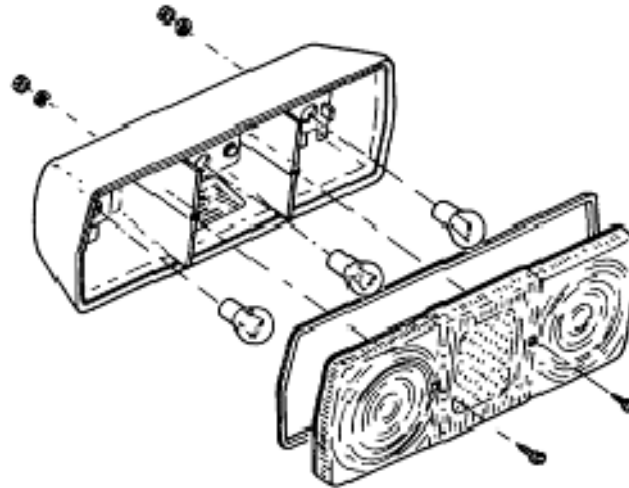

Figure 154 Stop/Tail, Reversing and Indicator Light Exploded View
- b. Replace the bulb as required (Figure 154).